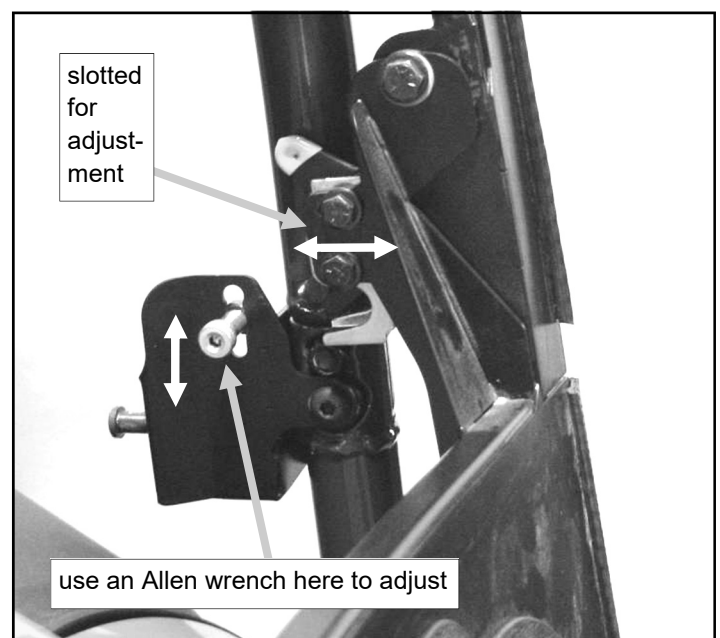

Fig. 2.3 (view from inside of driver's side)
2.3 Three areas are adjustable if a better seal is desired. First be sure that the upper pins are seated at the bottom of the receiving slots in the upper mounts before beginning any adjustments. The lower latches have adjustment in and out (see fig. 2.3). The lower pins on the front mounts have adjustment up and down. The upper pins have adjustment in all directions due to an oversized hole. Make the necessary adjustments until you achieve "double click" engagement. If the issue is with the seal against the ROPS tubing, adjust the lower latches in or out. If the issue is with the seal against the hood, adjust the pins up or down.